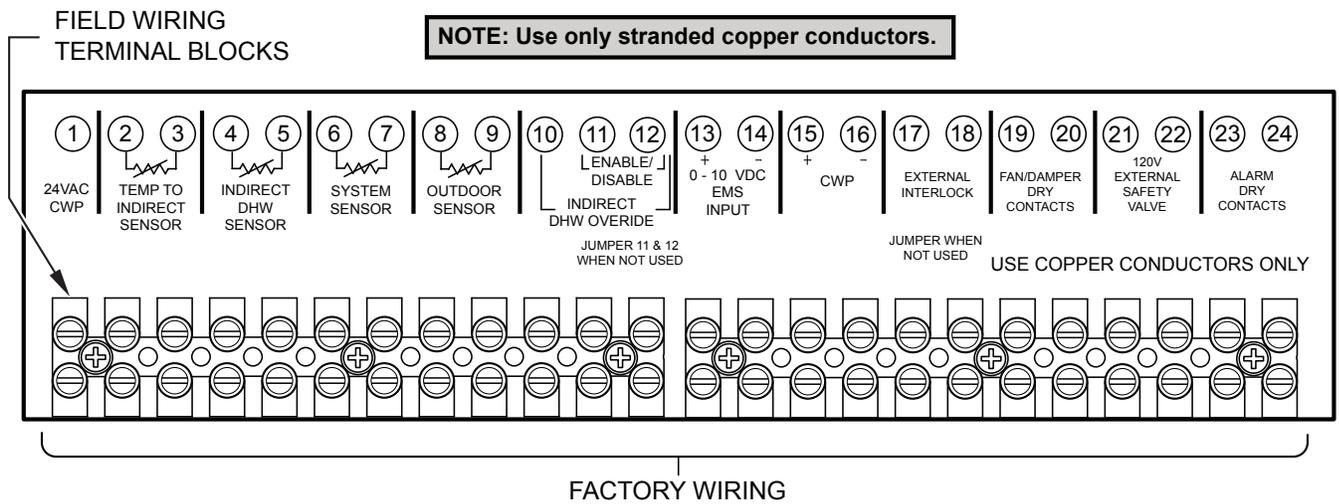

Figure 29. Low-Voltage Wiring
Field wiring connections such as sensors, interlocks, enable/disable and alarm contacts are made at the low-voltage terminal strip at the front of the heater as shown in **Figure 29**.
Connect the Enable/Disable (terminals 11 and 12) wiring to the field wiring terminals as shown in **Figure 29**. Alternately, any dry contact closure (including a remote thermostat) across these terminals will enable the XTherm heater to run.
1. If using an Outdoor Sensor, connect the sensor wires to the terminals (8 and 9) marked OUTDOOR SENSOR. See **Figure 29**.
2. To enable this remote control function, set DIP switch 5 to the UP position on the PIM. DIP switch 5 Toggles between an EMS (UP) signal or a demand signal from the VERSA (DOWN).
3. DIP switch 2 on the PIM toggles between a Direct Drive (UP) input and a Target Temperature (DOWN) setpoint.
5. Connect an Energy Management system or other auxiliary control signal to the terminals marked 0-10V (+/-) on the field wiring terminals. See **Figure 29**. Caution should be used to ensure that the +0-10V connection does not create a short to ground.
2. Connect the system supply sensor to terminals 6 and 7 on the field wiring strip located on the Master heater. See Figure 29.
3. Connect the Outdoor sensor (if used) to terminals 8 and 9 on the field wiring strip located on the Master heater. See Figure 29.
4. Connect the Enable/Disable wiring to terminals 11 and 12 on the field wiring strip located on the Master heater. This connection must be provided through dry contacts closure. See Figure 29. Applying 24VAC to these terminals will result in blowing the fuse on PIM.
An alarm annunciator or light may be connected to the alarm contacts on the field wiring terminal strip. The Alarm Contacts are 3A rated dry contacts on a normally-open relay that close during fault or lockout conditions, and the maximum voltage across the contacts is 30 VAC or 30 VDC. See Figure 29.